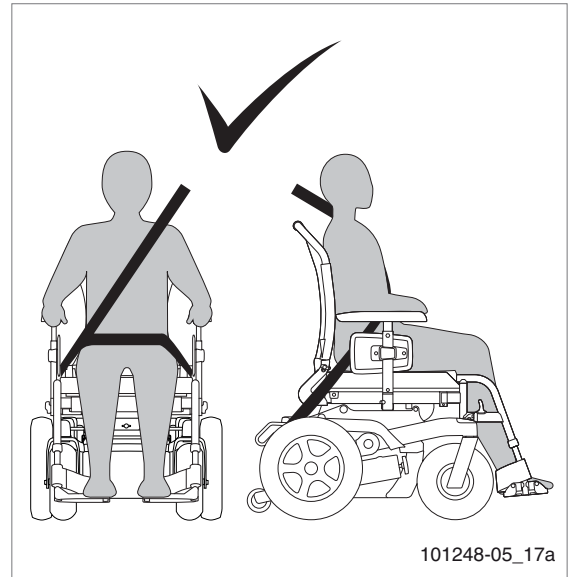

Figure 14
- Position the belt across the hips as tightly as possible at an angle between 30° and 75°. The other part of the belt is positioned to sit across the chest and shoulder (figure 14).